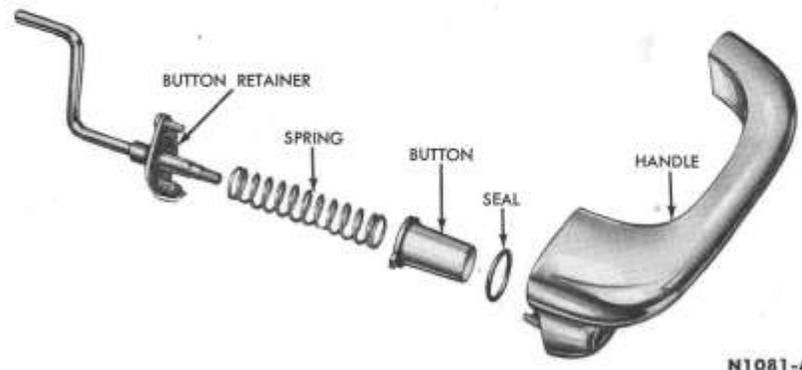

FIG. 11—Typical Door Handle Disassembled
3. Transfer parts as necessary (Fig. 11).